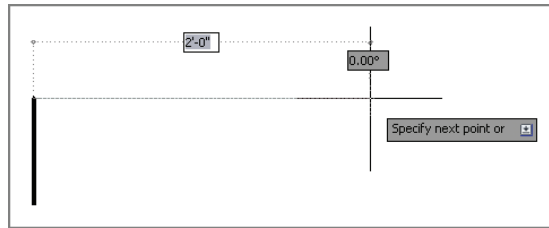

FIGURE 3.4 Using Snap with Dynamic Input to gauge distances without typing
- Type **L**, and press Enter twice to continue drawing from the last point clicked. Toggle Grid Display off and Dynamic Input on in the status bar. Move the cursor horizontally to the right from the point at which the rubberband is anchored. Notice that 1/2" (or 10 mm) increments are all that show up on screen; this is due to Snap. Snap can be used independently of the grid; the grid is merely a visual drawing aid. Click on the drawing canvas when the dynamic input value reads 2'-0" (or 600 mm), as shown in Figure 3.4. Leave the file open for work in the next section.